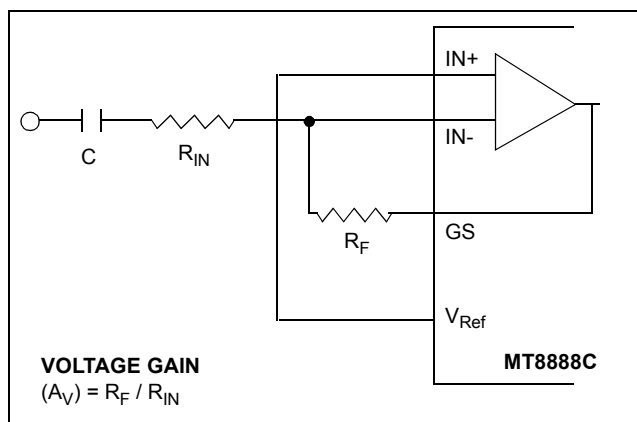

Figure 3 - Single-Ended Input Configuration
The input arrangement of the MT8888C provides a differential-input operational amplifier as well as a bias source ( $V_{Ref}$ ), which is used to bias the inputs at  $V_{DD}/2$ . Provision is made for connection of a feedback resistor to the op-amp output (GS) for gain adjustment. In a single-ended configuration, the input pins are connected as shown in Figure 3.